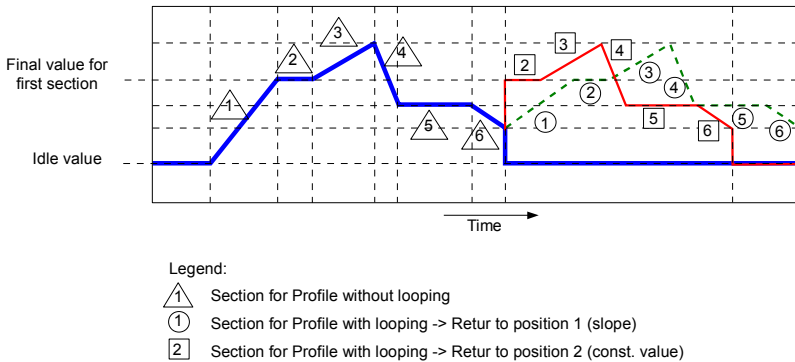

Fig. 7.100. Sample of Profile/timer with description of parameters
- if the section from which begins the next repeat Profile/timer is a **ramp**, then in the whole duration of this section is linear generating the output signal from the **final value** of the previous section to **final value** this section. This is shown in **Fig. 7.100** (dashed line-run profile)
- if the section from which the next repeat of the Profile/timer begins is a constant value, then Profile signal quickly transient (0.1 seconds) from the **final value** of the previous section to a **constant value** in this section. This is shown in **Fig. 7.100** (profile guided fine line).